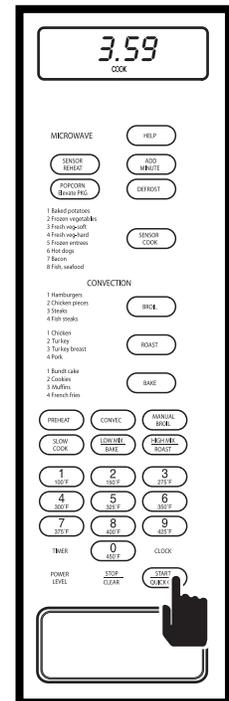

Figure 3-29.
2. Press QUICK ON/START key to begin cooking for the time amount entered. The oven will energize and the display will show the time as it counts down. (See Figure 3-29) At end of the cooking time, “END” will flash on display and alarm will beep.